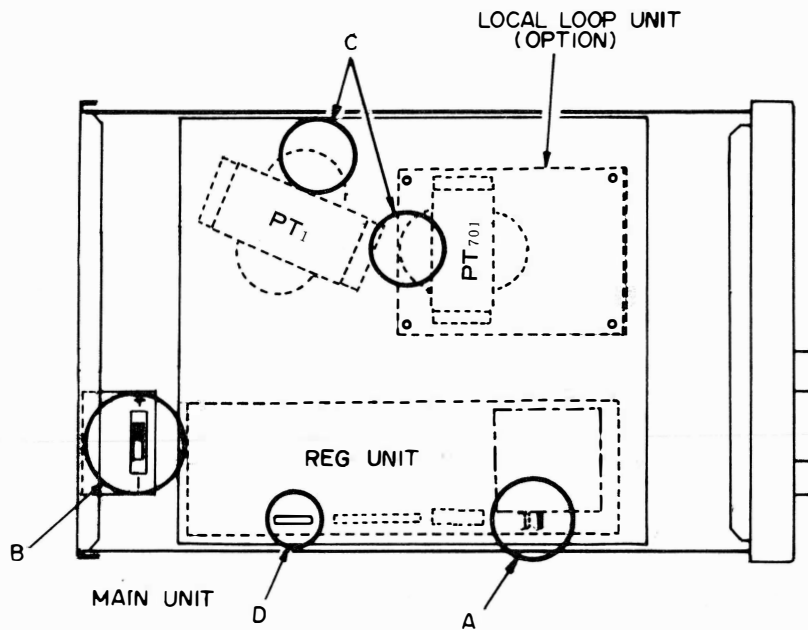
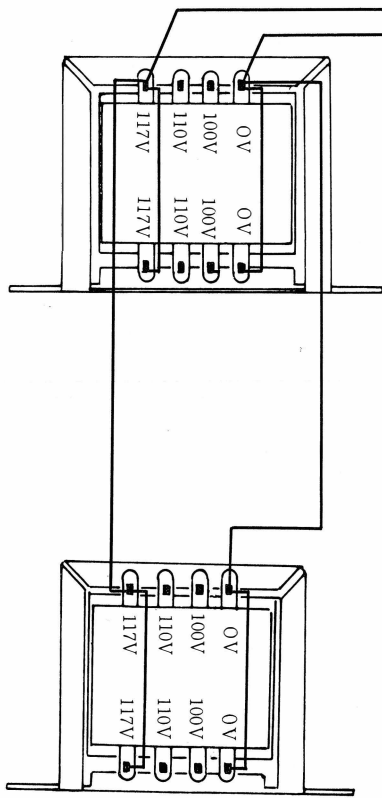

Fig. 13
Fig. 18
Locate switch B in Figure 13. Set this switch to – for negative keying. When returning to a transceiver using positive keying, this switch must be returned to +.
- (1) Remove the case of the YR-901. Remove the Molex plugs from the sockets on the MAIN UNIT, and note their position carefully. Remove the mounting screws for the MAIN UNIT, and remove this unit from the case.
- (2) Install the LOCAL LOOP UNIT in the position shown in Figure 13, being certain to position it correctly (the power transformer of the LOCAL LOOP UNIT should be adjacent to the main power transformer). Now connect the two parallel wires shown in Figure 18 between the LOCAL LOOP power transformer and the main power transformer. Check to make sure that the primary winding on the LOCAL LOOP transformer is the same as that on the main transformer.
- (4) Locate the 5-pin connector from the LOCAL LOOP UNIT. Connect this to J204, marked D in Figures 13 and 14.
- (5) Carefully re-install the MAIN UNIT, being especially careful not to bend the leads of the various connectors. Close up the case.